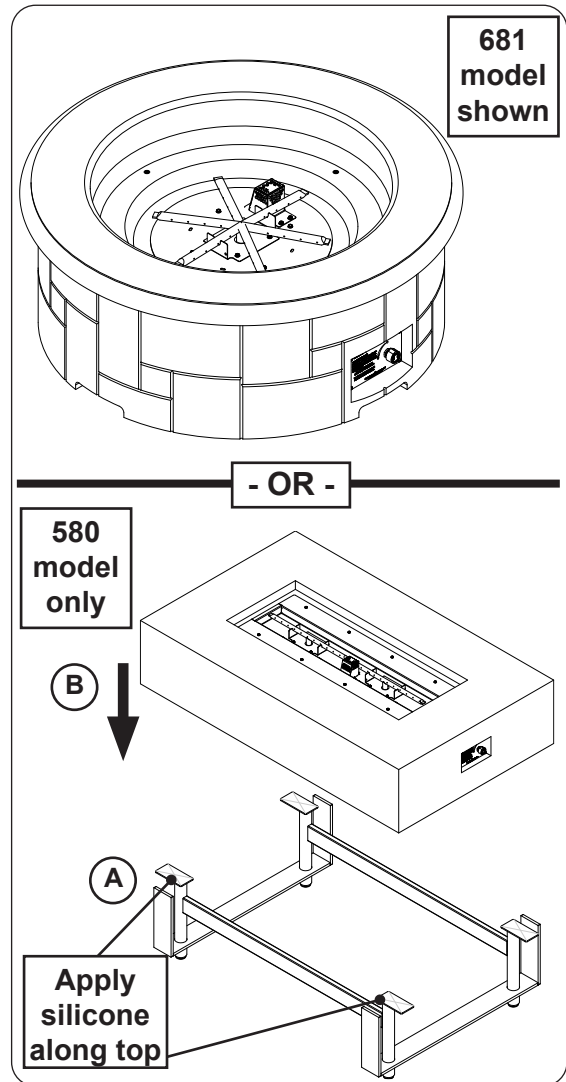

Fig. 24-1 Place unit
1. **CAREFULLY** place the unit in an appropriate location, and assemble if needed (see Fig. 24-1, and refer back to the LOCATION section if needed).